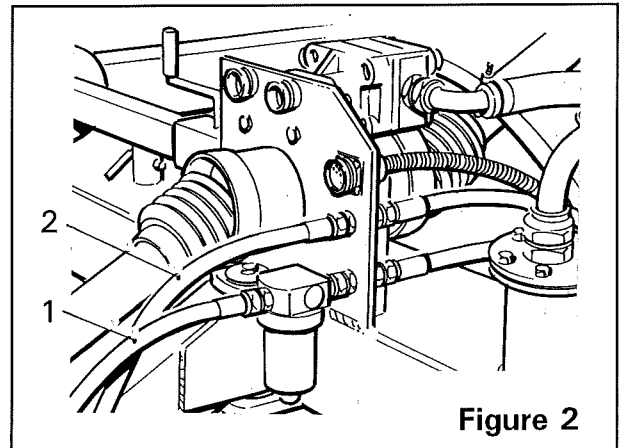

Figure 2
4. Connect the hydraulic pressure hose (*item 1, figure 2*) (the hose connected to the pressure filter) to the tractor supply port. Connect the return hose (*item 2, figure 2*) to the tractor return port.